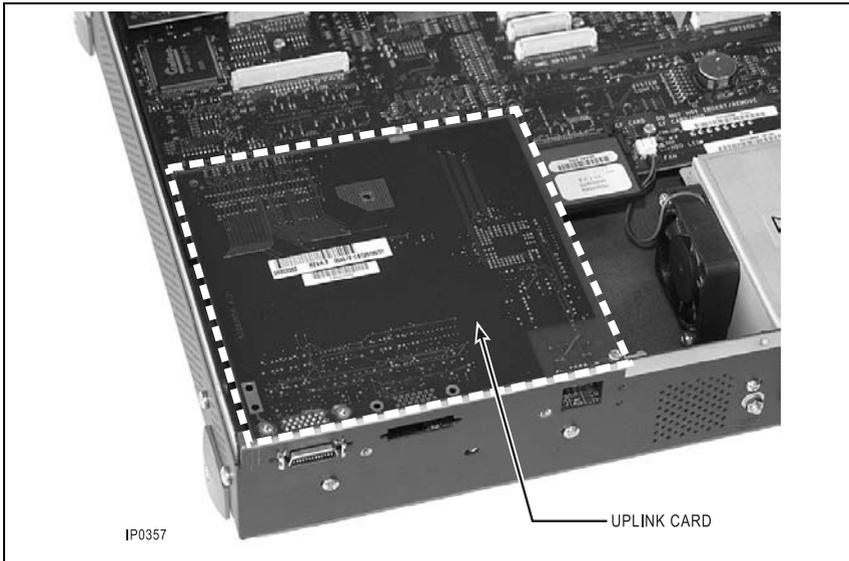

Figure 21: Uplink card
6. If your system has an expansion unit, remove the screws holding the up-link card. The position of the up-link card is shown Figure 21.